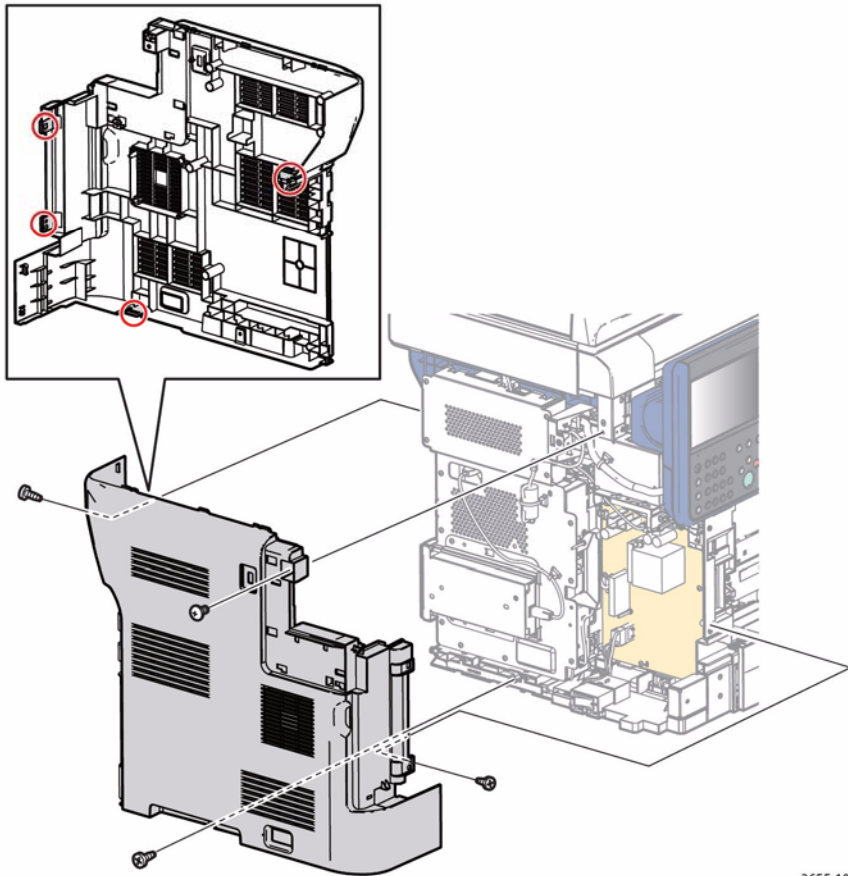

Figure 1 Remove the Left Side Cover
5. Refer to Figure 1 to locate and remove 3 screws (silver, tapping, M3, 8mm), and 1 screw (silver, M4, 6mm), release 3 bosses and 1 hook.